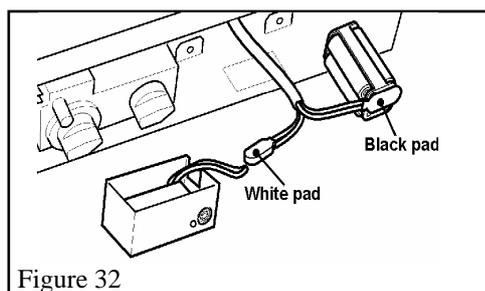

Figure 32
- Remove the remote control receiver lid. Remove the cover from the **white** connection pad. Fit this connection pad to the remote control receiver terminals. See figure 32.
- Fit the **black** connection pad to the battery holder. Fit four 1.5V batteries. See figure 32.